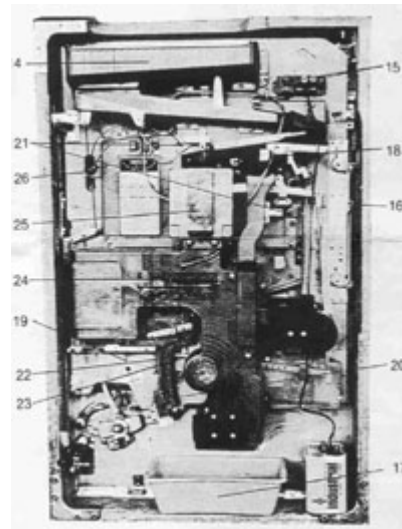

Figure 3
1. Put at least 150 balls in Tray (14).
2. Make sure there are No balls in Chute (20). If there are balls in this chute, they must be removed by lifting up Wire (22), and pushing down on Lever (23). The balls will release easier if Chute (20) is tapped lightly. See Figure 3. You must remove all the balls from Chute (20).
3. Once you have removed all the balls from Exit Chute (20) push the Reset Lever (19) up, and the machine will automatically pay off all the win balls you have jammed in the Win Storage Area. If the machine is played for a long period of item with no balls in the Feeder Tray (14), it may become necessary to tilt the machine from side to side, tapping firmly on Storage Area (24). This will clear the jammed balls. Repeat steps 1, 2, and 3 until the jam has been cleared.